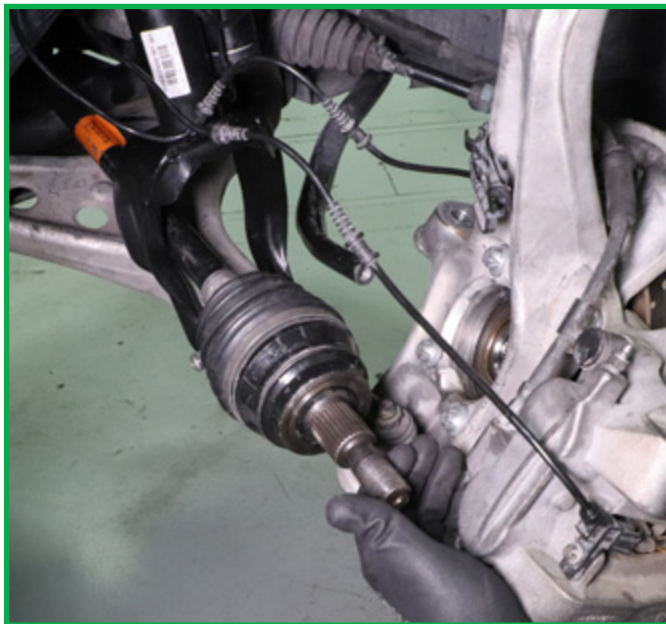

FIGURE 16
13. Separate axle from front wheel bearing. (Figure 16)